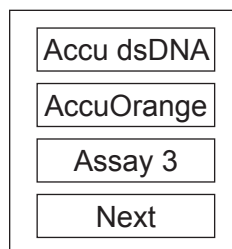

Figure 3. Assay Selection screen
- Touch the Calibrate tab on the Main Menu screen to enter the Assay Selection screen (Fig. 3). In the screen you can select the assay on which you want to calibrate your standard. Alternatively, if you do not wish to use calibration, you can use the meter in RFU mode (see section 2.4a).